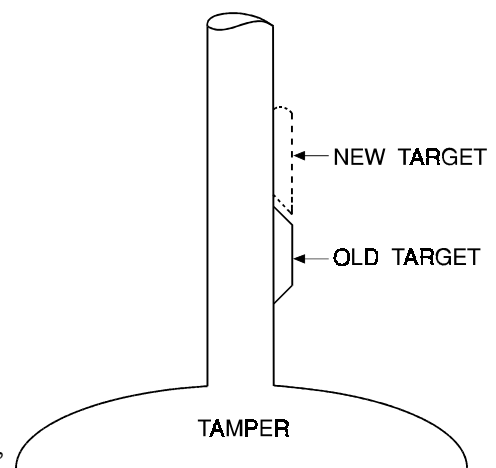

FIGURE 1 (MSSM0918AE)
5. Place proximity switch target on top of existing 2/3 down switch target. (See FIGURE 1) Mark and drill two 3/8 inch holes, and mount with hardware provided.